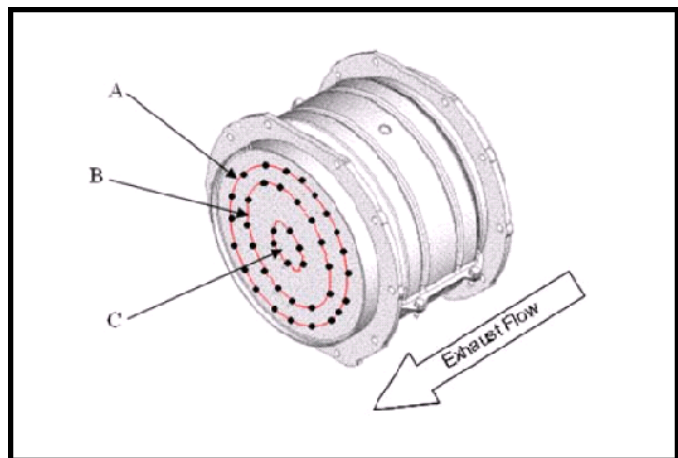

Figure 1
2. Starting at the 12 o'clock position approximately 1½ inches from the outside edge, drop the PIN gauge into one of the cells. Note how far the PIN drops into the cell. (Figure 1- A Below check 12 cells total)
4. Perform the same step above half way from the center to the edge of the filter in a circular pattern. Measure the depth on each cell. (Figure 1 - B Below check 6 cells total)
5. Last step check the center of the filter. (Figure 1 - C Below check 4 cells total)